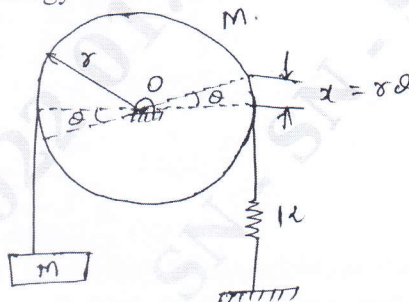

Fig.Q.2(b)
- b. Determine the natural frequency of oscillation of the system shown in Fig.Q.2(b) by using: